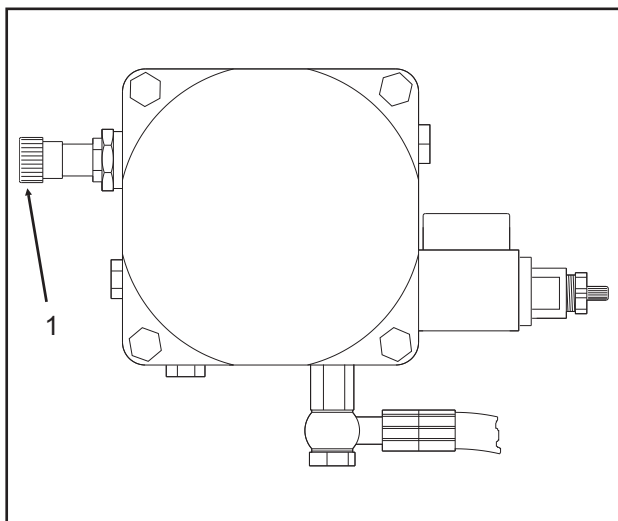

Fig.16
- in caso di sovraccarico del sollevatore interviene la valvola di massima pressione (rif.1 Fig.16).
- the maximum pressure valve (1, fig.16), located on the hydraulic oil power unit, will trip if the lift is overloaded.